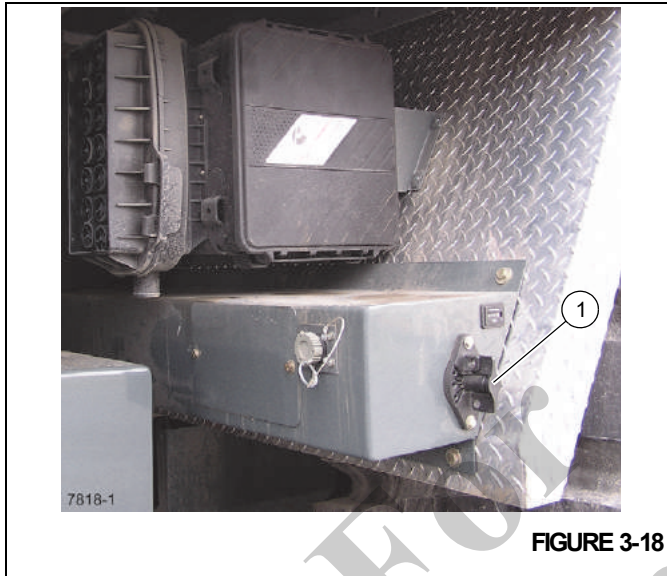

FIGURE 3-18
Ensure battery disconnect switch handle (1) (Figure 3-18) is in the ON position (handle shown in the OFF position)